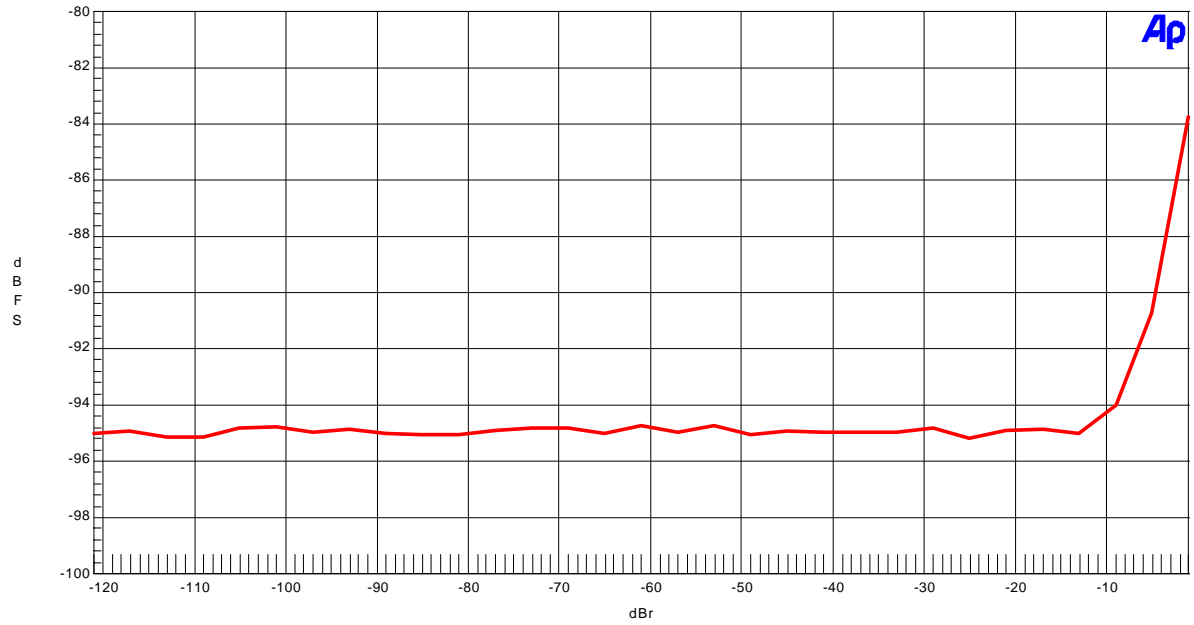

Figure 2. THD+N vs Input Level (fs=48kHz; fin=1kHz)
- Figure 2. THD+N vs Input Level (fin=1kHz)